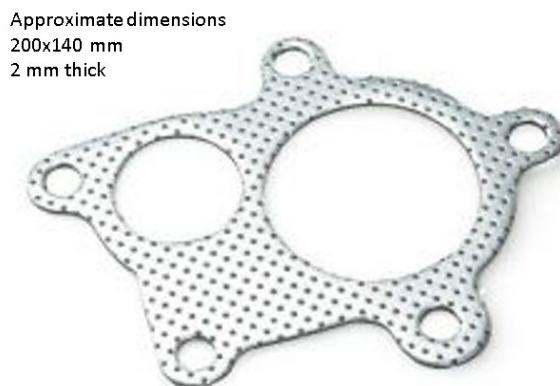

Figure 1. Gasket for assembly.
1. Consider the aluminium gasket in Figure 1. This part arrives at an assembly station in a box containing a quantity of 100 gaskets placed neatly on top of each other. The location of the box is fairly accurate with a 2 mm tolerance in each direction and is within the reach of a robot on this station. The robot picks one gasket up at a time from the box and locates it on a flat surface of an engine block with five screws projected from its surface. Screws on the component tightly match the holes on the gaskets, and the position of the engine block on the assembly table is accurate and known to the robot.